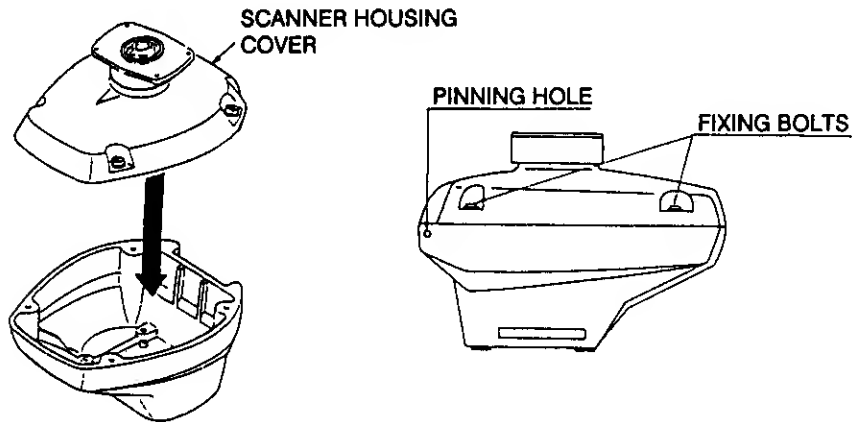

Figure 6-4 Fixing the Scanner Housing Cover
1. Place the scanner housing cover onto the scanner housing. Fasten the four fixing bolts temporarily by hand as shown in Figure 6-4.
2. Apply grease to the two slot pins and insert them into the pinning holes (shown in Figure 6-4) until the pin head is flush with the scanner housing surface. Use a wooden hammer to insert the pins, to prevent damage to the cosmetic paint.